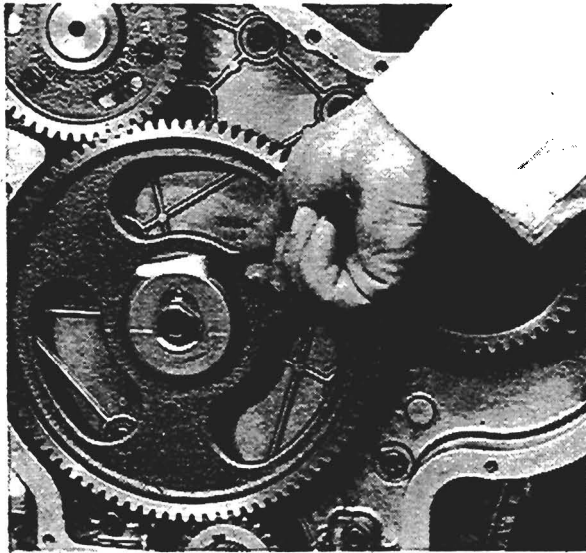

Fig. K5
4. Fit idler gear end plate, locking washer and setscrew. Fully tighten setscrew and bend up locking washer. Ensure that idler gear has end clearance on hub (see fig. K5). End clearance must be 0,13 to 0,38 mm (0.005 to 0.015 in).